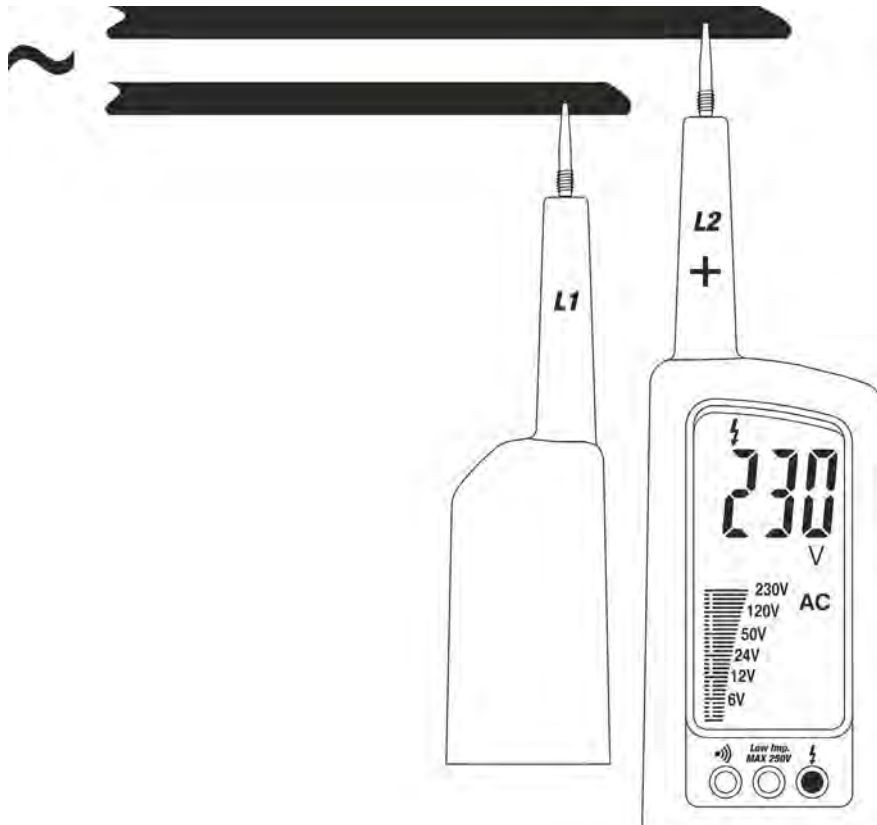

Fig. 3: AC Voltage measurement
2. Connect the L1 and L2 probes to the object under test (see Fig. 3). The measurement is performed **only when probes are in contact to live conductors**.